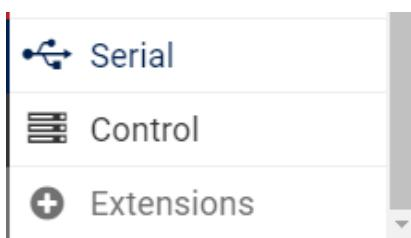
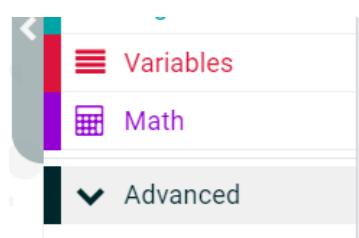

Figure 19
Figure 20
1. Open [www.makecode.microbit.org](https://makecode.microbit.org), click on ‘New Project’, then complete the Create a Project box. Next click on Extensions (Figure 19) under Advanced (Figure 20).